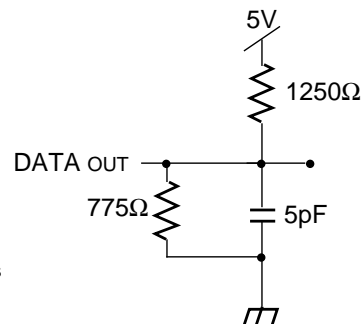

Figure 2. Output Test Load (for tHZ, tLZ, twz, and tow)
1. Transition is measured ±500mV from Low or High-impedance voltage Output Test Load (Figure 2).
1. Transition is measured $\pm 500\text{mV}$ from Low or High-impedance voltage with Output Test Load (Figure 2). This parameter is guaranteed by device characterization but is not production tested.
7. This parameter is determined by device characterization, but is not production tested. Transition is measured +/- 500mV from steady state with the Output Test Load (Figure 2).